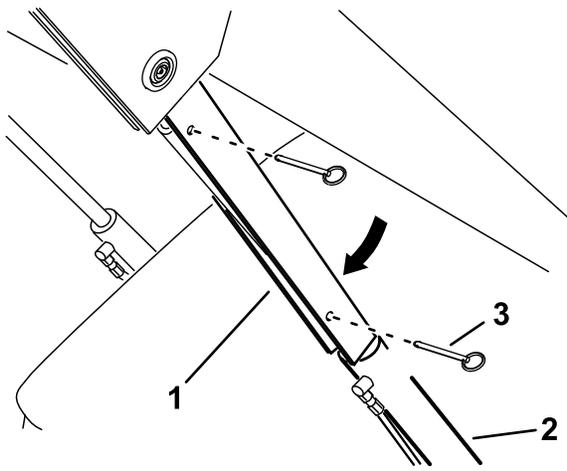

Figure 39
5. Slide the cylinder lock over the lift-cylinder rod (Figure 39).